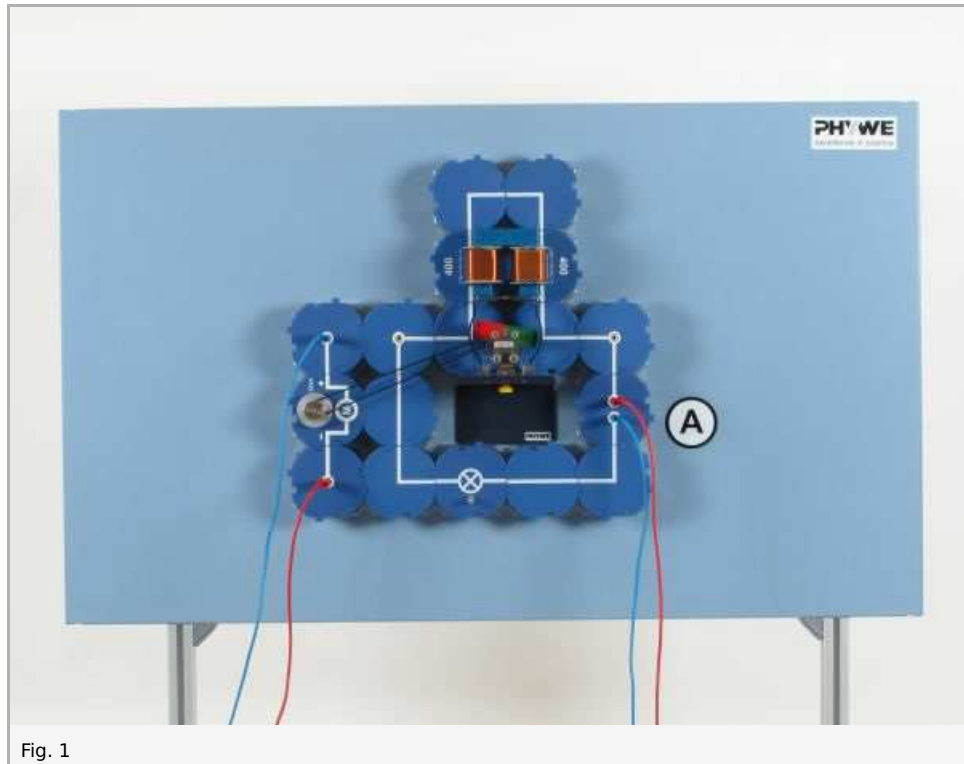

Fig. 1
- Fit the magnetic rotor in the model of a motor and set up the experiment as shown in Fig. 1, at first without the driving belt
- Move the rotor by hand at different speeds by means of the countered milled screw; observe the ammeter and the lamp (1)
- Apply a 5...6 V direct voltage to the motor and switch on the power supply; observe the lamp and the measuring instrument (2)
- Vary the speed of revolution of the motor, and so of the generator, by increasing and decreasing the voltage several times; observe the lamp and the measuring instrument (3)
- If possible, set the measurement range for direct current, e.g. set 100 mA, and in a brief "continuous operation" observe the lamp and the measuring instrument (4)